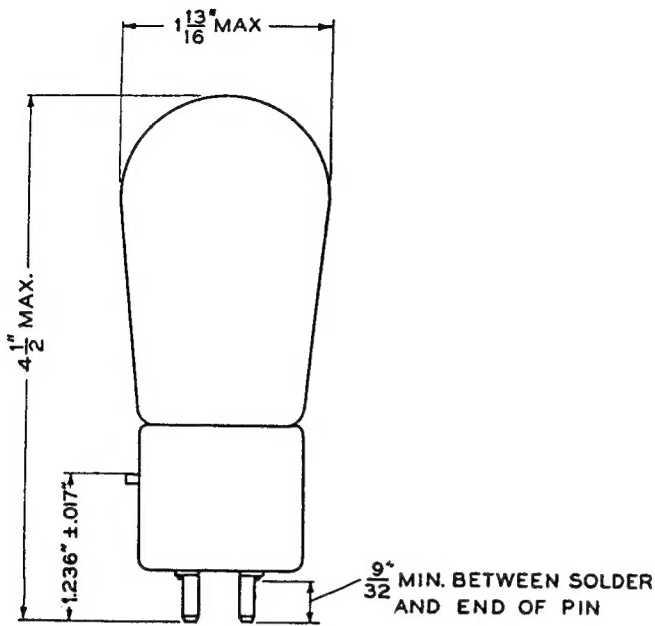

FIG. 1
**Dimensions—**Dimensions, outline diagrams of the tube and base, and the arrangement of the electrode connections to the base terminals are shown in Figures 1 and 2.